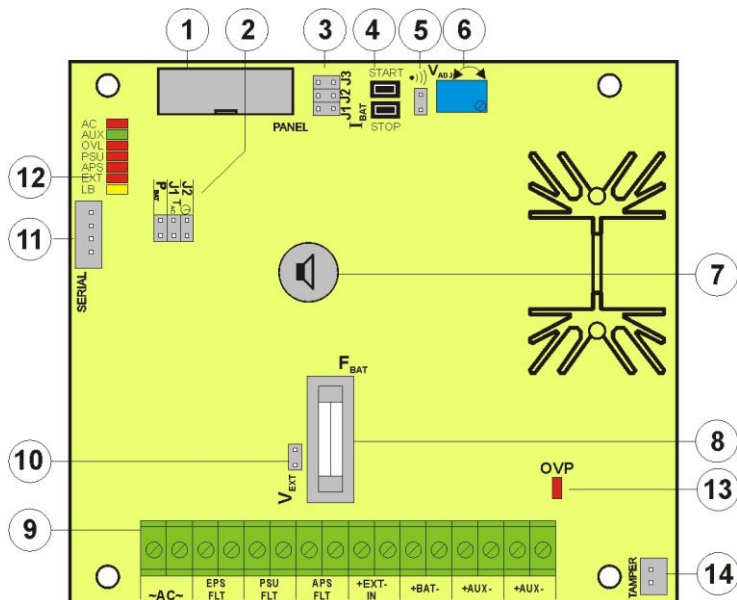

Fig. 2. The view of the PSU's PCB.
Table 1. Elements of the PSU pcb (see Fig. 2).
①	Insolation transformer
②	PSU board (see Tab.1, fig.2)
③	TAMPER ; micro-switch (contacts) of tamper resistance (NC)
④	F_{MAINS} fuse in the supply circuit (~230 V)
⑤	L-N power supply connector ~230 V, protective connector
⑥	Battery connectors: positive: +BAT = red, negative: - BAT = black
⑦	Tamper grip